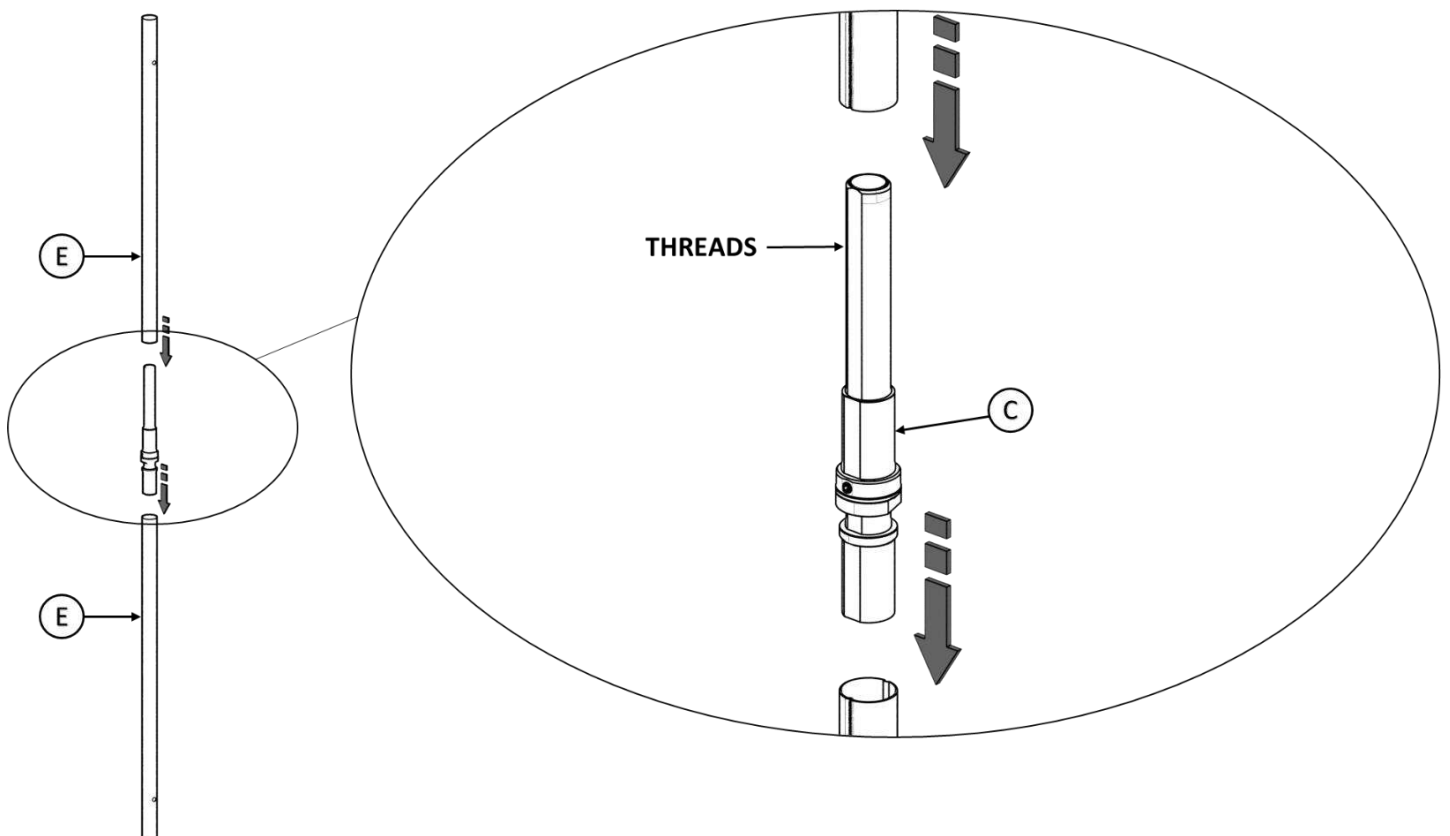

FIGURE 2
2. Insert **C** into **E** with the **THREADS** oriented towards the ceiling as shown in *FIGURE 2*.